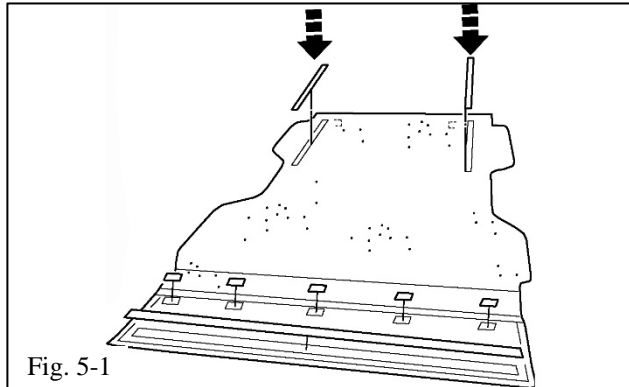

Fig. 5-1
- (a) Attach (2) 1" X 36", 1" X 2" and 1" X 60" hooks to the underside of the BedRug and tailgate. Trim 1" X 60" strip where necessary (Fig. 5-1).